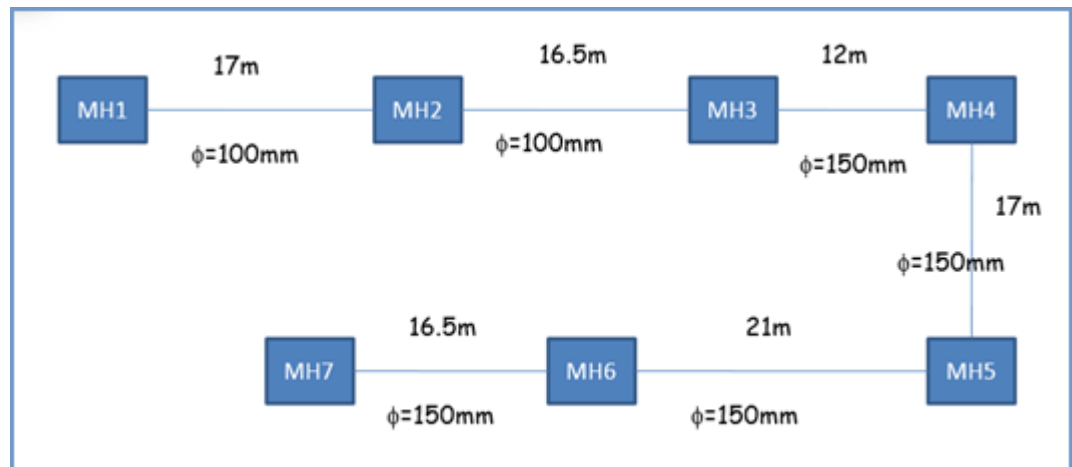

Figure 4c / Rajah 4c
- (c) A drainage system in a residential area requires proper planning to ensure efficient wastewater flow and maintenance access. Manholes are installed at key points in the drainage network to allow for inspection, cleaning, and repairs. The depth and size of these manholes must be determined based on standard guidelines to ensure compliance with safety and functionality requirements. Based on Figure 4c, calculate the depth and determine the size of manholes (MH1, MH2, MH3, MH4, and MH5) by referring to Tables 6 and 7 given.